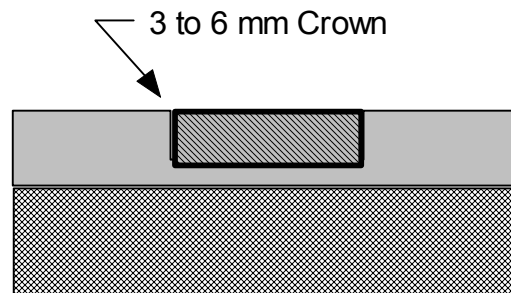

Figure 11: Finished Patch with a 3 to 6 mm Crown (4)
- The finished patch should have a 3 to 6 mm (0.1 to 0.2 in) crown. This allows for further compaction by traffic and helps prevent standing water in the patch area. Figure 11 illustrates the finished patch.